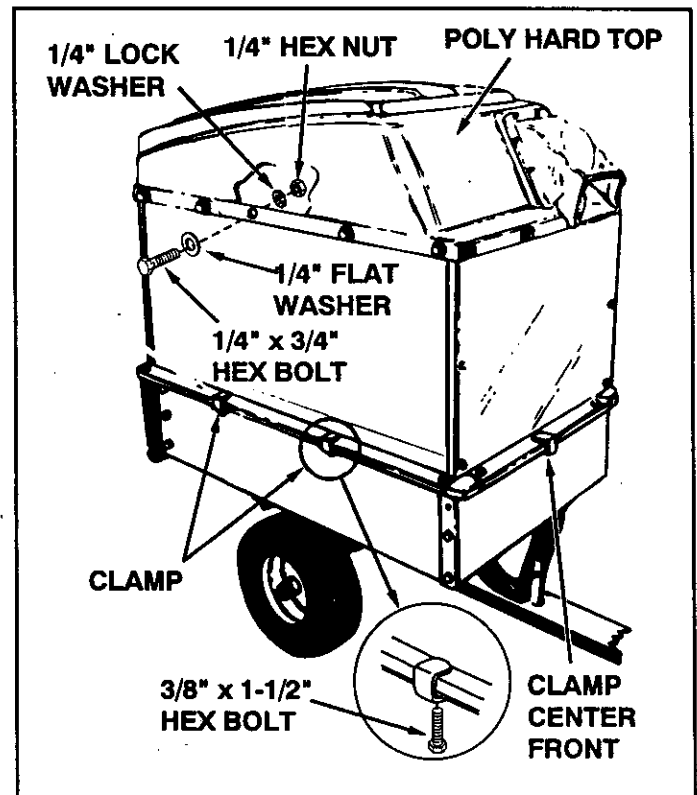

FIGURE 17
- Install the poly hard top over the front and side panels. Fasten it to the panels using fourteen 1/4" x 3/4" hex bolts, 1/4" flat washers, 1/4" lock washers and 1/4" hex nuts. See figure 17.
- Assemble four clamps onto the cart flanges, two on each side of the cart, positioned approximately 12" from each end. Fasten each clamp from the bottom with a 3/8" x 1-1/2" hex bolt. See figure 17.
- Assemble a clamp at center of front panel and cart flange using a 3/8" x 1-1/2" hex bolt. See figure 17.